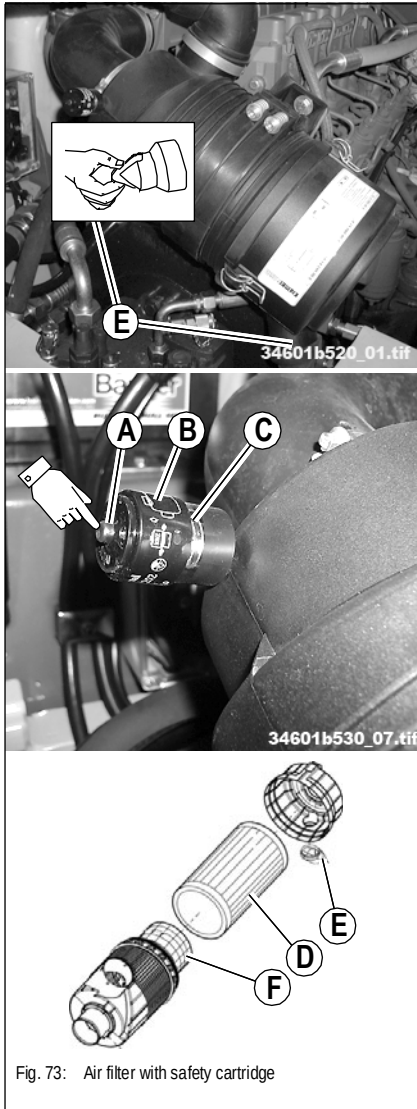

Fig. 73: Air filter with safety cartridge
- 7 In addition, every 3rd time the filter is replaced, carefully remove the safety cartridge fig. 73/F with slightly turning movements
- Clean the dust valve fig. 73/E